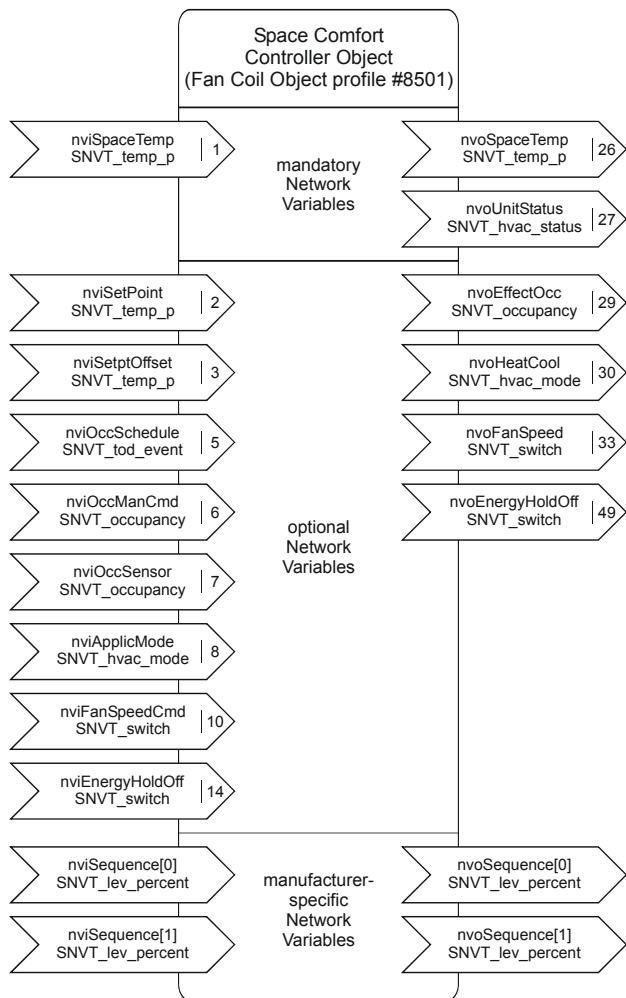

Fig. 6. Space Comfort Controller Object
- 1 space comfort controller object (#8501 SCC – Fan Coil) (see Fig. 6)